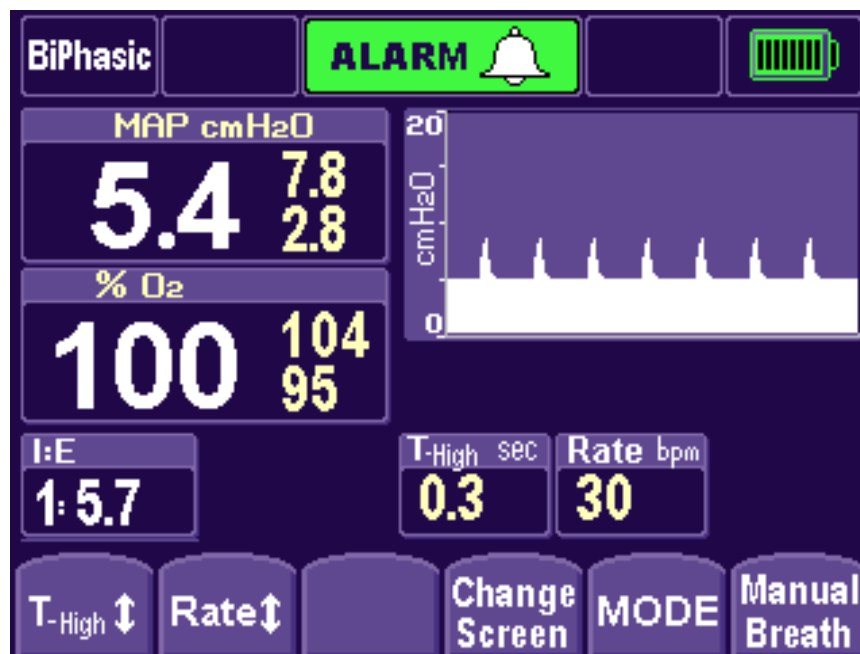

Figure A-5
10. Verify that the measured value on the external oxygen analyzer doesn't exceed 23% FiO2. If so, then troubleshoot for an oxygen leak. Check all the fittings and connections and repeat the Oxygen Leak Test (Figure A-5).